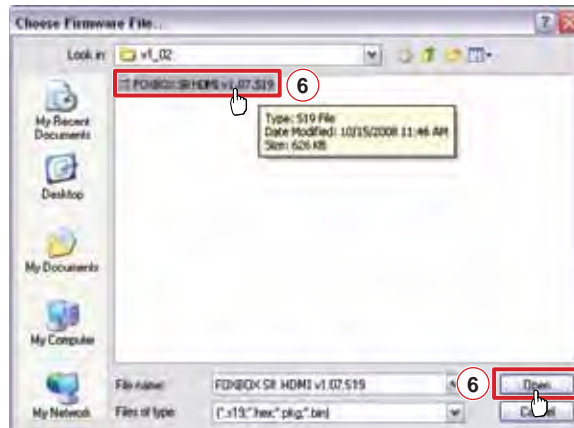

Figure 32. Choose Firmware File Window
5. Select the FOXBOX receiver and click **File > Open**. The Choose Firmware File screen appears (see figure 32).